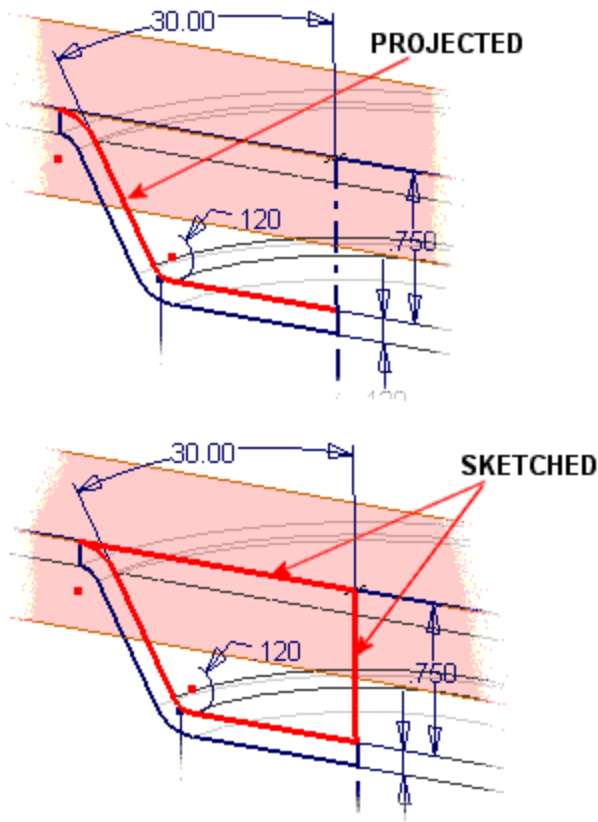

Figure 18: Projected and sketched geometry.
3. From the Sketch panel bar, click the Project Geometry tool . Project the sketch geometry from Sketch3 shown in the upper image of Figure 18. Sketch the two lines shown in the lower image of Figure 18. The two lines are coincident to the endpoints of the projected geometry.